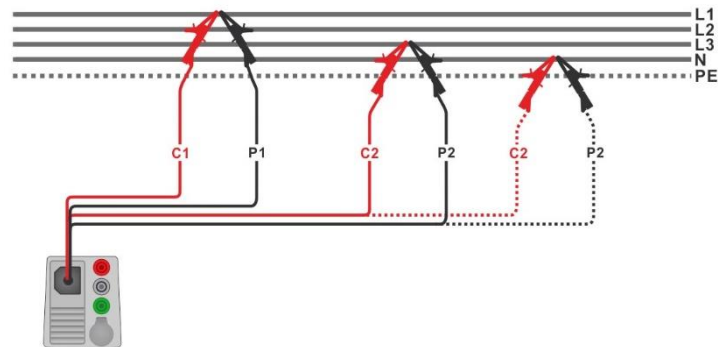

Figure 7.59: Phase-phase or phase-neutral 4-wire line impedance measurement
- ▶ Connect 4-wire test lead to the object under test, see *Figure 7.59*.